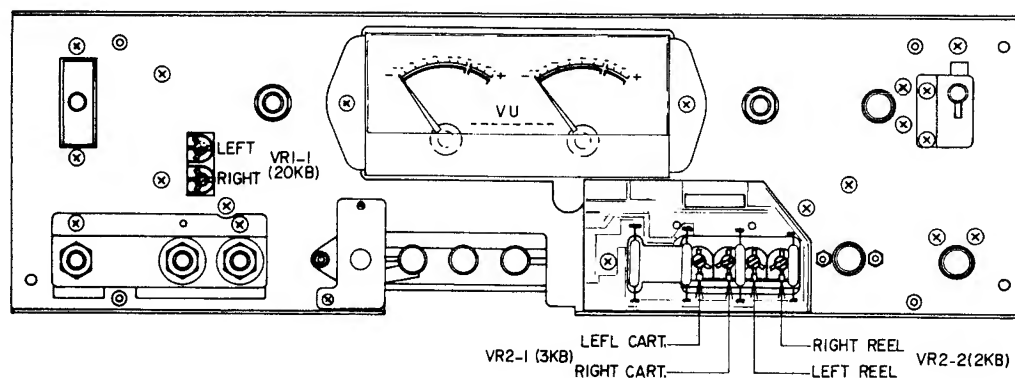

Fig. 4
(B) Recording and Playback (See Figs. 4 and 5) (Reel)
5. If the Line Output Level does not reach "0" VU, turn Volume VR-202 (2 KB) until the Line Output reaches "0" VU (± 2 dB). Repeat this process 2 or 3 times (from item 3).
(C) Recording and Playback for Cartridge (See Fig. 4 and 5)
5. With Volume Controls (VR1a or VR2a) at maximum, adjust VR1 (3KB) so that the Line Output Value is +2 dB (± 2 dB). Repeat this process 2 or 3 times (from item 3).